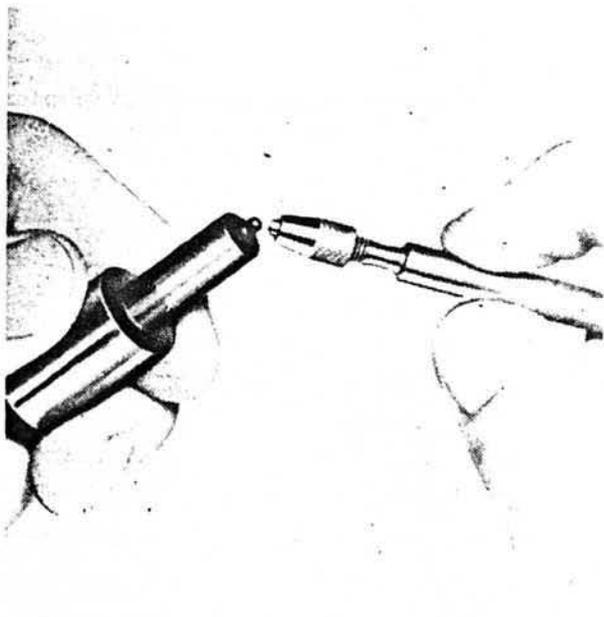

Fig. 58. Cleaning the nozzle holes
7. Clean the nozzle holes, Fig. 58, if they are fully or partly blocked by soot with a small cleaning needle fitted in a hand chuck. It is important when cleaning the holes to use a cleaning needle with a diameter 0.02 mm (0.0008") smaller than the holes in the nozzle. See the specifications for the nozzle hole diameter.